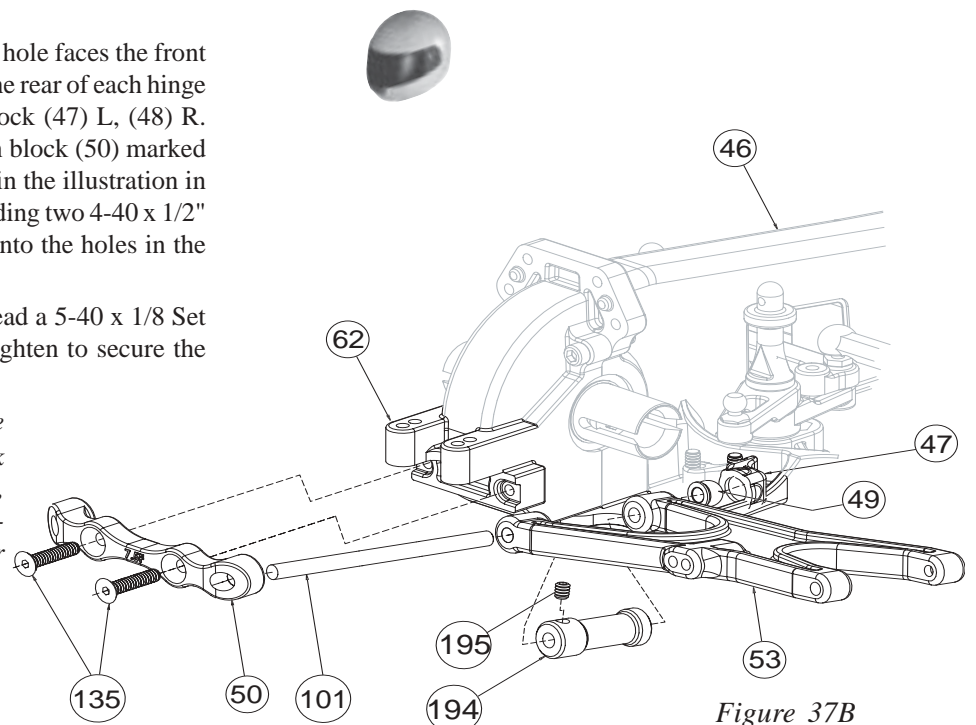

Figure 37B
1. Slide a 1/8" inner hinge pin (101) through the larger holes of each of the two front arms (53) also passing through the Hinge Pin Retainer (194).
2. Position the arm so that the shock mount hole faces the front of the chassis (46). Place one pivot ball (49) on the rear of each hinge pin. Insert the arm into the inner front pivot block (47) L, (48) R. Capture the front arms by placing the front main block (50) marked with "7.5F" onto the inner hinge pins as shown in the illustration in Figure 37B. Secure the front main block by threading two 4-40 x 1/2" flat head screws (135) through the main block into the holes in the front diff cover (62).
3. After securing the front main block, thread a 5-40 x 1/8 Set Screw (195) into the Hinge Pin Retainer and tighten to secure the hinge pin.